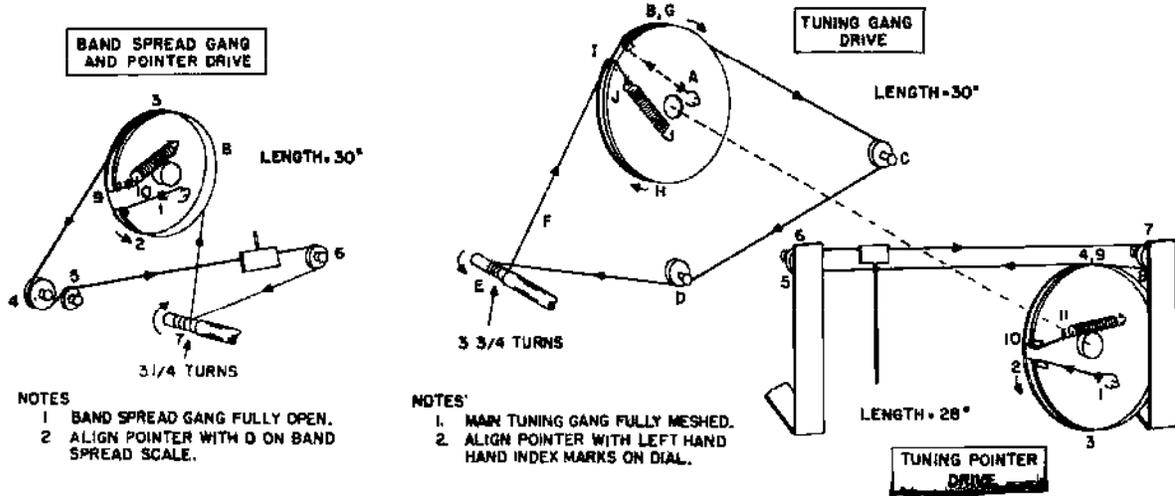

FIG. 3 DIAL CORO STRIRING DIAGRAMS
RESTRINGING DIAL CORD - The dial drive system of the S-72 consists of three separate string drives (1) **BAND SPREAD** gang and pointer drive (2) **TUNING** gang drive and (3) **TUNING** pointer drive. Refer to Fig. 3 for the dial stringing diagrams.